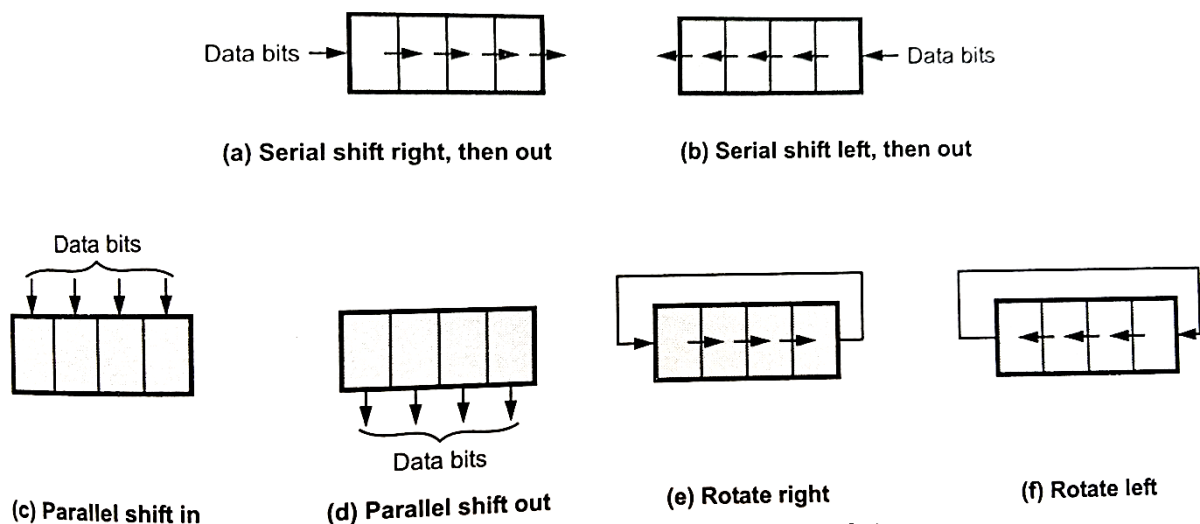

Figure 3.25: Basic data movement in registers.
- The figure 3.25 shows the symbolical representation of the different types of data movement in shift register operation.